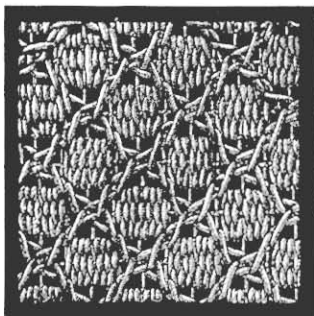

Fig. 56. Ground in darning and cross-stitch.
**Ground in darning stitch and cross-stitch** (fig. 56). — Begin, as before, with the darning stitches and then do the cross-stitches. To give them the proper shape, finish all the rows in one direction first; in the next rows that cross the first you insert the thread between the stitches first crossed.